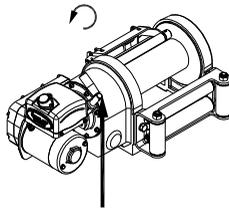

Fig6
- 1). To disengage the free-spool lift the free-spool lever up and turn it at 90° clockwise rotation to the “Disengaged” position, wire rope can now be free-spoiled off the drum (Fig.6).